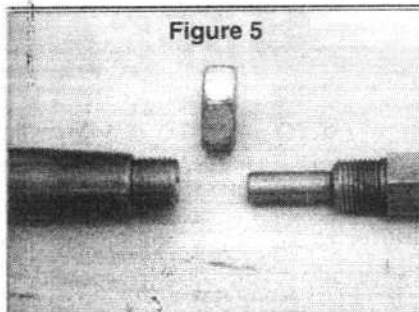

Figure 5
The next step is to screw the 9/16"-18 portion of the threaded plug into the steering shaft all the way up to the 5/8"-18 portion. Smear some Loctite Threadlocker on the 9/16" threads to help hold the plug in place. *Figure 5* shows the threaded plug screwed in with a special tool I made from 1 1/16" hex stock. This handy tool has two uses; (1) screwing in the threaded plug without damaging the threads, and (2) removing a steering wheel from the shaft. More on removing the steering wheel later.
To use the tool in *Figure 5* to remove a steering wheel, back off the steering wheel nut halfway. Screw in the tool until it is tight against the steering shaft threads. Hold the steering wheel against your chest with the lower end of the steering gear a few inches off the floor. Give the tool a good whack with a big ball peen hammer. In most cases, one or two good licks will jar the steering wheel loose. If you must hit it more than once or twice, make sure the tool stays screwed in tight against the shaft threads.